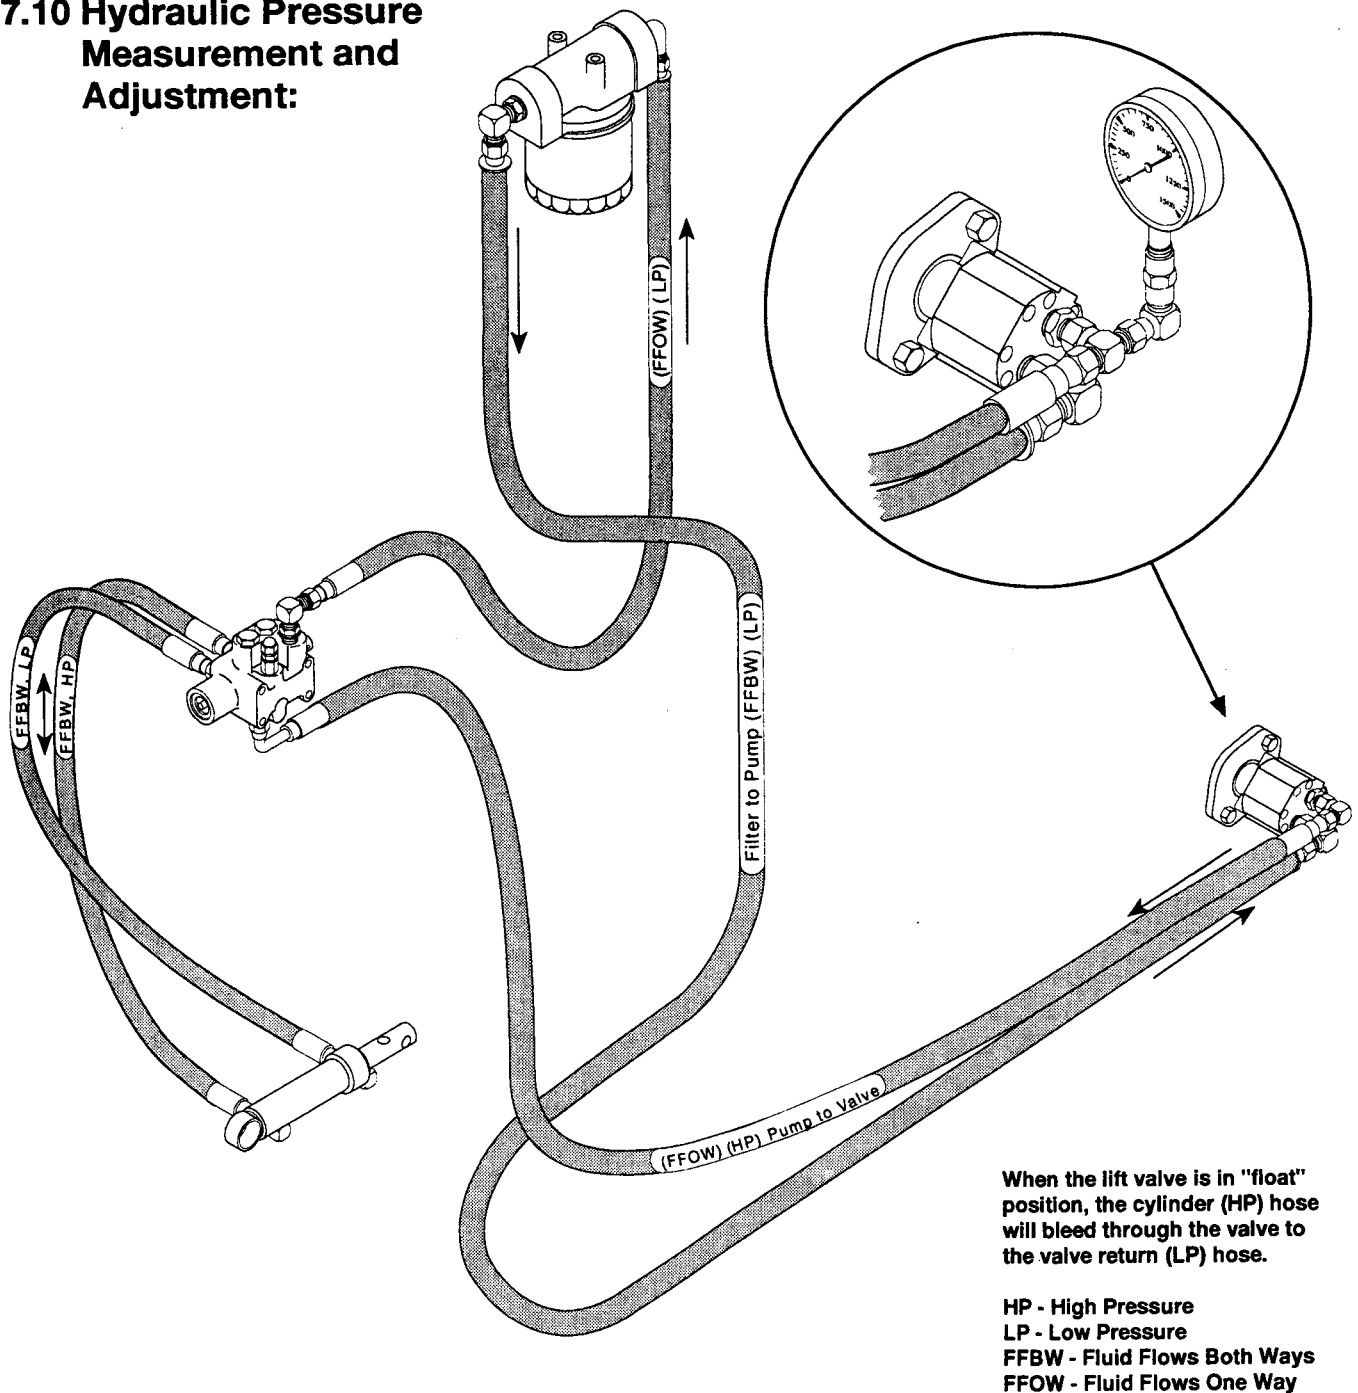

FIGURE 30 — Pressure Reading Needs to be 950-1050 PSI
- B. Remove the adaptor fitting at the pump outlet and install the pressure gauge. See Figure 30 Use two wrenches to avoid breaking the fittings. Pressure Gauge Kit is Part No. 39995 - Figure 40 - Section 10.
- 2. Reconnect hydraulic hoses. Refer to Figure 30 for proper routing.